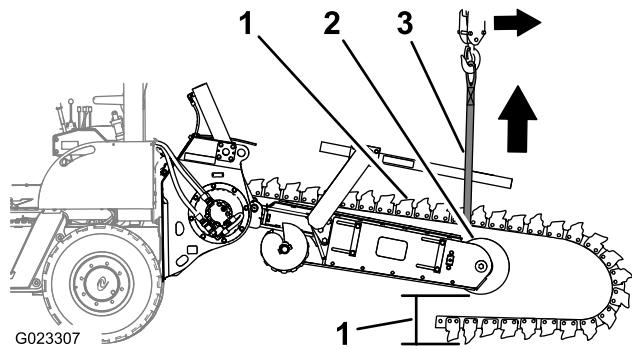

Figure 43
3. Start the machine and lower the boom until the bottom idler wheel is positioned 31 to 36 cm (12 to 14 inches) above the ground (Figure 43).
- When the digging chain has cleared the drive sprocket, move the trencher drive control to the NEUTRAL position, turn the machine off, and remove the key (Figure 43).
- Wrap the lifting strap around the digging chain at the idler wheel, and attach the strap to the lifting equipment (Figure 43).
- Raise the lifting equipment and remove the digging chain from the boom (Figure 43).